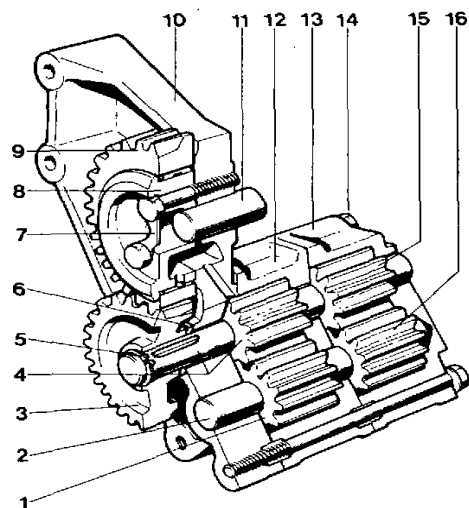

Fig. 106. Oil pump, for engines with shallow sump for large inclinations
1. Remove the idler gear (9, fig. 106).
4. Position the axial washer (6, fig. 106) on the journal. Fit the key and press on the outer drive gear (3). NOTE! There should be a clearance of 0.02–0.08 mm (0.001–0.003") between the axial washer and the drive gear, use a feeler gauge of 0.05 mm (0.002") inserted in the gap when assembling. Fit the circlip (5).
5. Fit the idler gear (1) and the delivery pump housing.
6. Position the key for the scavenger pump gear (15) and press on the gear. NOTE! In order to obtain the correct clearance between the drive gear (15) and the delivery pump housing (12), a feeler gauge of 0.05 mm (0.002") should be inserted in the clearance when assembling.
7. Fit the idler gear (16) and the scavenging pump housing. Secure the pump housings to the bracket. Check that the pump can be easily turned around by hand.